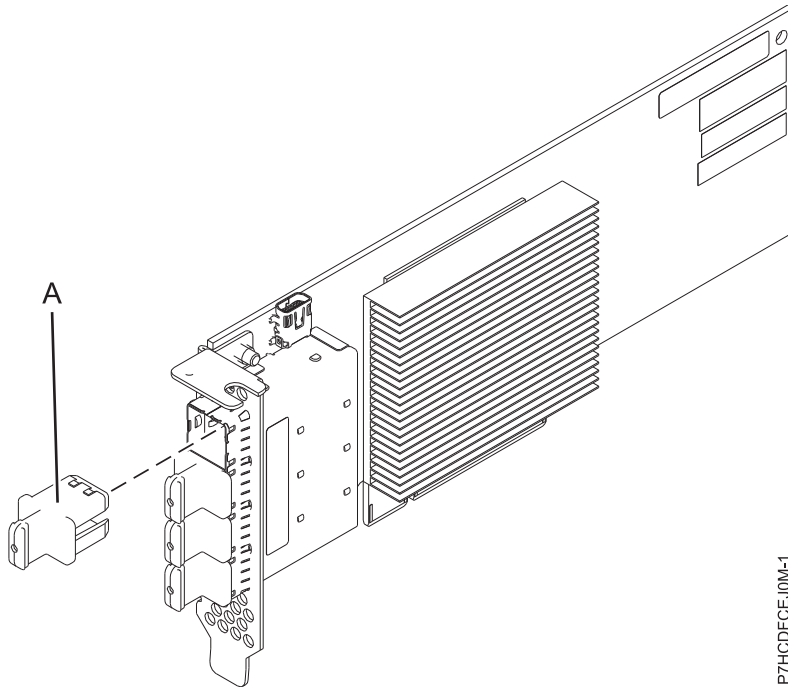

Figure 31. PCIe3 LP 4 x8 SAS Port Adapter
The PCIe3 LP 4 x8 SAS Port Adapter is a PCI Express (PCIe), generation 3, RAID SAS adapter is a low-profile, short-form factor adapter. The adapter is used in high-performance and high-density, serial attached SCSI (SAS) applications. It supports the attachment of SAS DVD or SAS tape by using four mini SAS high-density (HD) x4 connectors that allow the physical links to be used in various narrow and wide-port configurations. SAS tape attachment is only supported in a single adapter configuration and cannot be mixed with SAS disk on the same adapter. The adapter does not have write cache. Figure 31 on page 91 shows the PCIe3 LP 4 x8 SAS Port Adapter.
Figure 31 shows the adapter. The connector plug (A) is installed in an empty port and prevents damage to that port whenever a cable for the adjacent port connectors is plugged-in or removed.